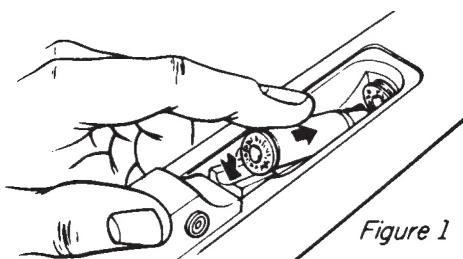

Figure 1
4. Load the magazine by using the cartridges themselves to depress first the lifter latch and then the lifter in one continuous motion. As the lifter moves inward (or upward), the rearward end of the magazine is exposed and the cartridges may be pushed one after the other directly into it. Each cartridge should be pressed as far as possible into the magazine, using the thumb of the right hand so that the cartridge will be caught against the pressure of the magazine spring by the cartridge stop. A total of four cartridges may be so loaded into the magazine. (Figure 1).